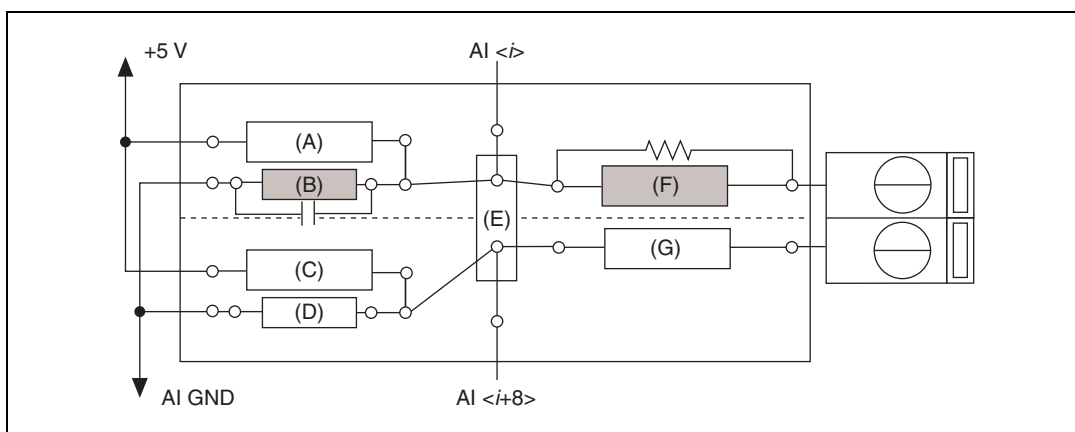

Figure 4-20. SCB-68 Circuit Diagram for Single-Ended Analog Input Lowpass Filter on AI
- Single-ended analog input lowpass filter**—To build a single-ended lowpass filter, refer to Figure 4-20. Add the resistor to position F or G, depending on the AI channel you are using. Add the capacitor to position B or D, depending on the AI channel you are using. Refer to Table 4-1 for component positions for all analog input channels.